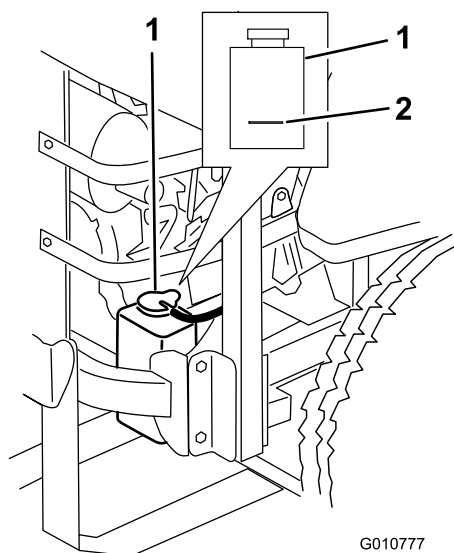

Figure 58
2. With the engine cool, check the overflow bottle level. The fluid needs to be up to the bump on the outside of the overflow bottle (Figure 58).
3. If the coolant level is low, add a 50/50 mix of extended life antifreeze/Dex-Cool® and water to the overflow bottle (Figure 58).
4. Add the 50/50 coolant mix to the overflow bottle and fill it to the indicator line on the bottle (Figure 58).